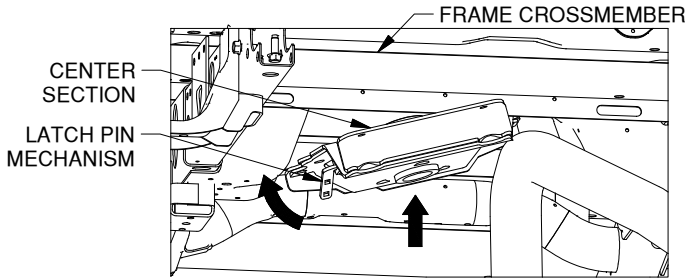

Figure B5: Looking from rear towards cab.
- 3. Install the center section.** With the latch pin mechanism on the drivers side, raise the center section into place as shown, see figure B5. In order to clear structures under the truck bed, the center will have to be lifted into place on an angle over the exhaust, then positioned directly under the frame cross member so that the raised portion of the center can be pushed straight up through the hole in the frame cross member, and through the hole in the plastic spacer block. Having assistance in the bed to guide the top of the center section is recommended. Line the 6 holes in the center section up with the frame holes and the holes in the threaded blocks. Thread a 5/8 flange head bolt into each hole. Next, run the bolts in until they are about 1/16" from being tight.